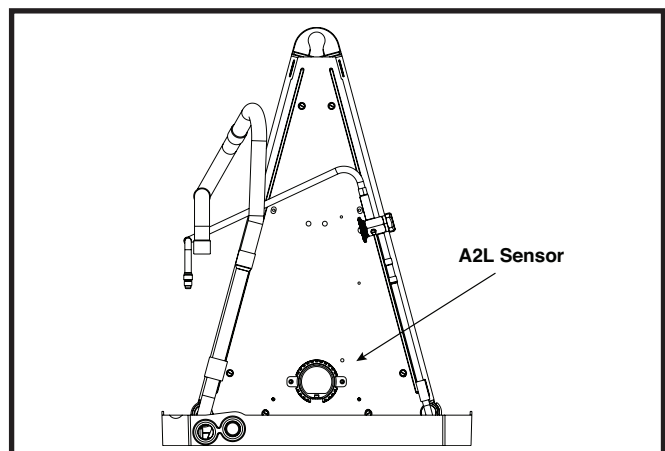

Figure 6. A2L Sensor Location
C85 Loose Coils have been evaluated for the safe use of A2L refrigerants, to meet requirements by Nortek and the standards in UL 60335-2-40. Due to the nature of the flammability of A2L refrigerants, modifications have been made to mitigate refrigerant leaks from a C85 coil in an MG2 furnace. Nortek has added an A2L sensor on all C85 coils located in the front plate. See Figure 6. See the C85 wiring diagrams and installation instructions for the installation of an C85 coil in an MG2 furnace.
- Location, size, and number of registers should be selected on the basis of best air distribution and floor plan of the home. Three typical distribution systems are shown in Figure 6.